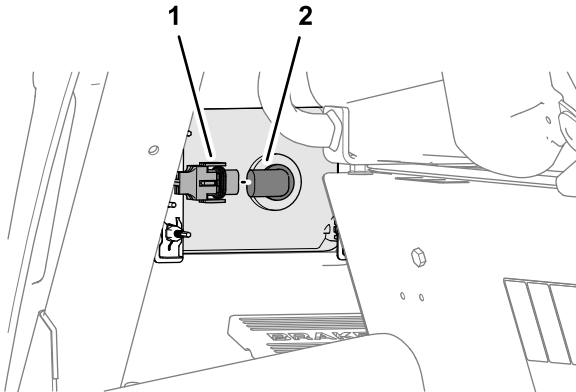

Figure 4
1. Remove the headlight connector of the machine wire harness from the connector of the headlight bulb (Figure 4).